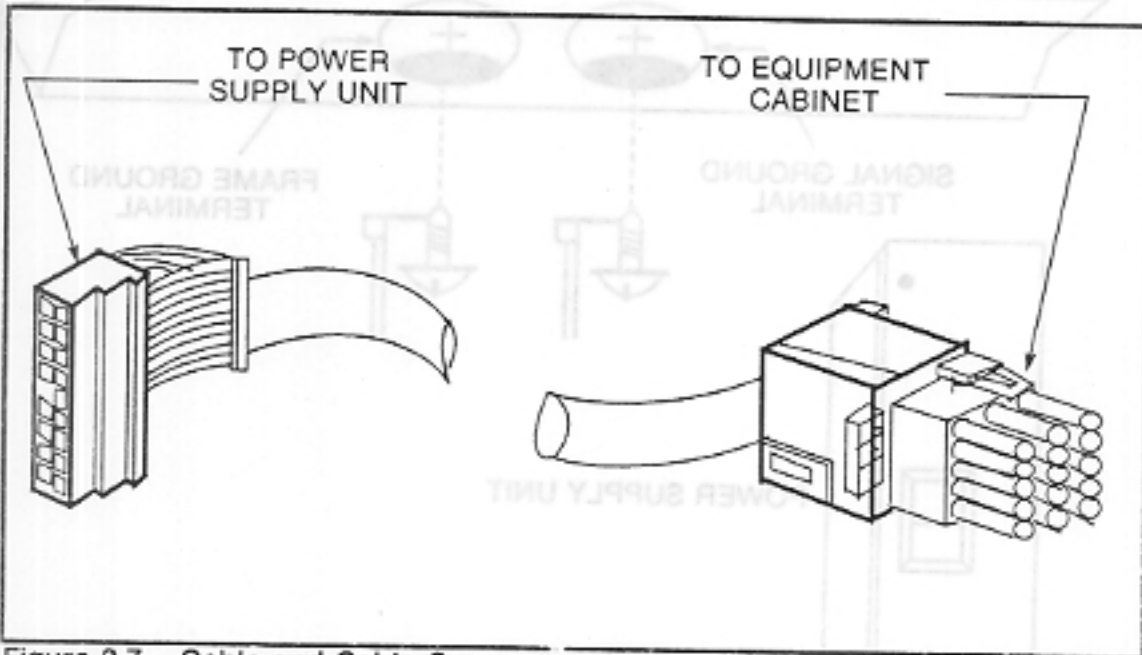

Figure 2.7 Cable and Cable Connectors for Equipment Cabinet Power Supply
2.1.6 The power cable that connects the equipment cabinet and the power supply unit is approximately 15 inches long. The cable connectors are different from one another and both connectors are safety keyed (see Figure 2.7).